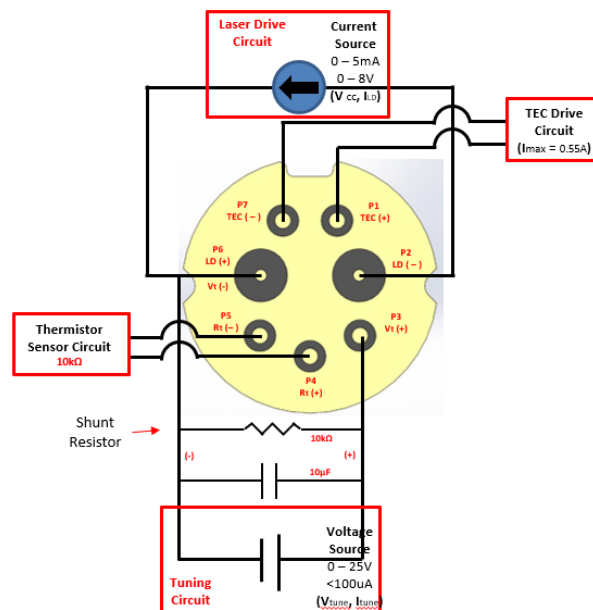

Figure 1: Electrical connection of the sweeping devices.
In Figure 1 the connection of the device is illustrated. In a laboratory environment we do recommend the equipment from the following manufacturers:
- Notice that the wavelength tuning is approximately quadratic with voltage, so we recommend a  $10 \mu\text{F}$  capacitor and  $10 \text{k}\Omega$  resistor in parallel with the tuning voltage source to reduce noise and guard against any transients. (see Figure 1)